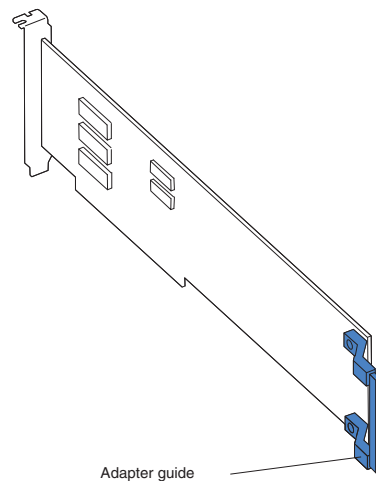

Figure 21. Adapter guide location
3. If you are installing a full-length adapter, remove the blue adapter guide (if any) from the end of the adapter (see Figure 21).